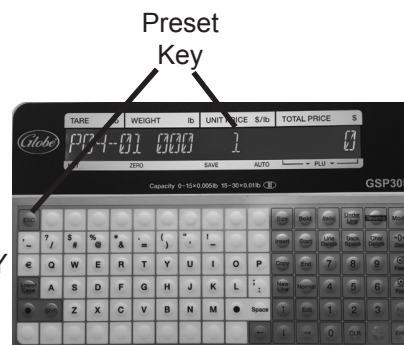

Figure 13-1
6. Press the desired preset key. See Figure 13-1.